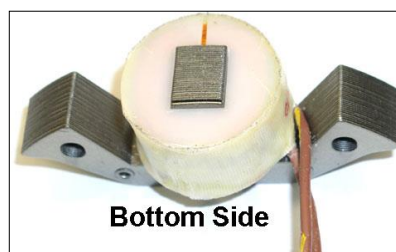
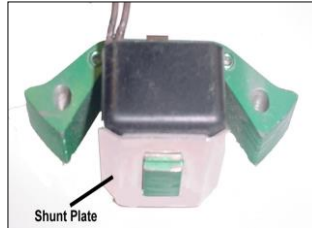

Fig. 4
Fig. 5
13. Fold the wires towards the outside and route them down and under the frame. (Fig 4) If the old coil had shunt plates (Fig. 5), you **MUST** use the new shunt plate provided with the new coil.